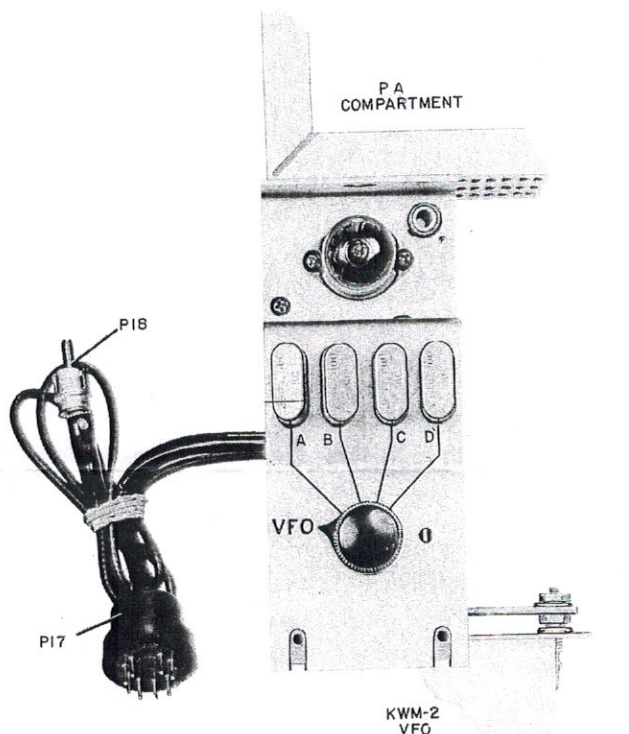

Figure 1. 399B-5 Installed in KWM-2
bracket so that the lip containing the two captive nuts points toward the transceiver front panel. Figure 1 shows the mounting plate in place at the rear of the vfo mounting bracket.
d. Position the 399B-5 on the KWM-2/2A chassis as shown in figure 1.